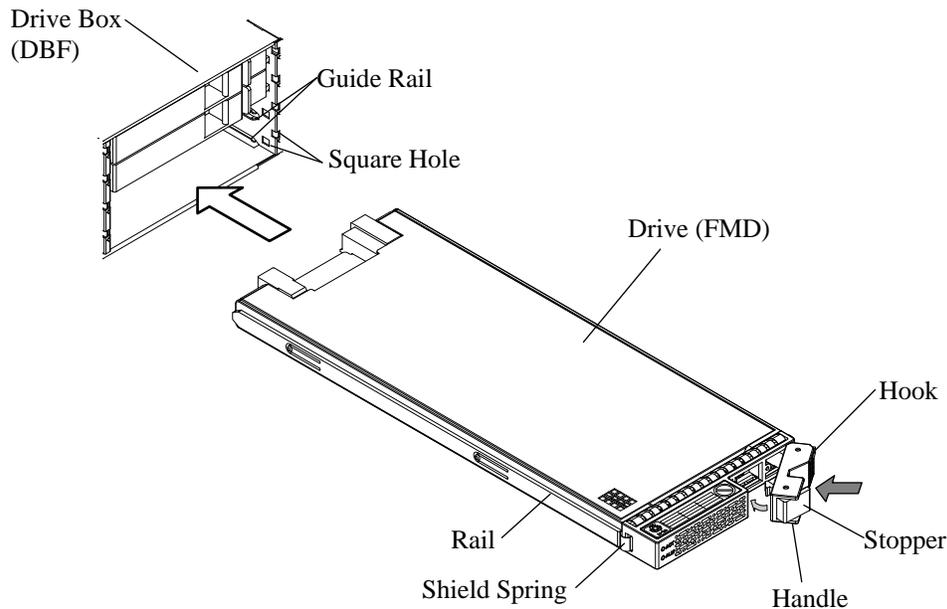

Fig. 3.44.1-9 Installation of Drive (for DBF)
- a. Make the handle of the DBPS completely fall down and forward. (See Fig. 3.44.1-4.)